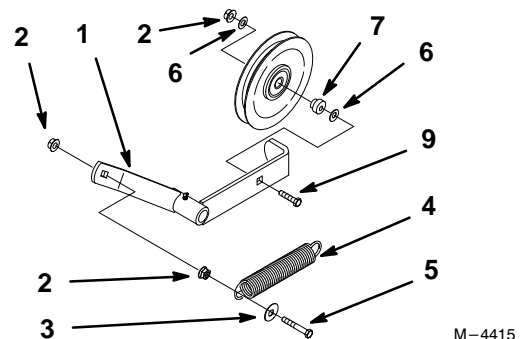

Figure 2
4. Remove the pulley, bushing, and hardware from idler arm. (Old idler arm not shown) (Fig. 2).
1. Route new belt onto the idler pulley. Install pulley and belt to new idler arm using existing hardware (Fig. 2).
2. Install spring to new idler arm. Use existing hardware and new flat washer included in kit. (Fig. 2).